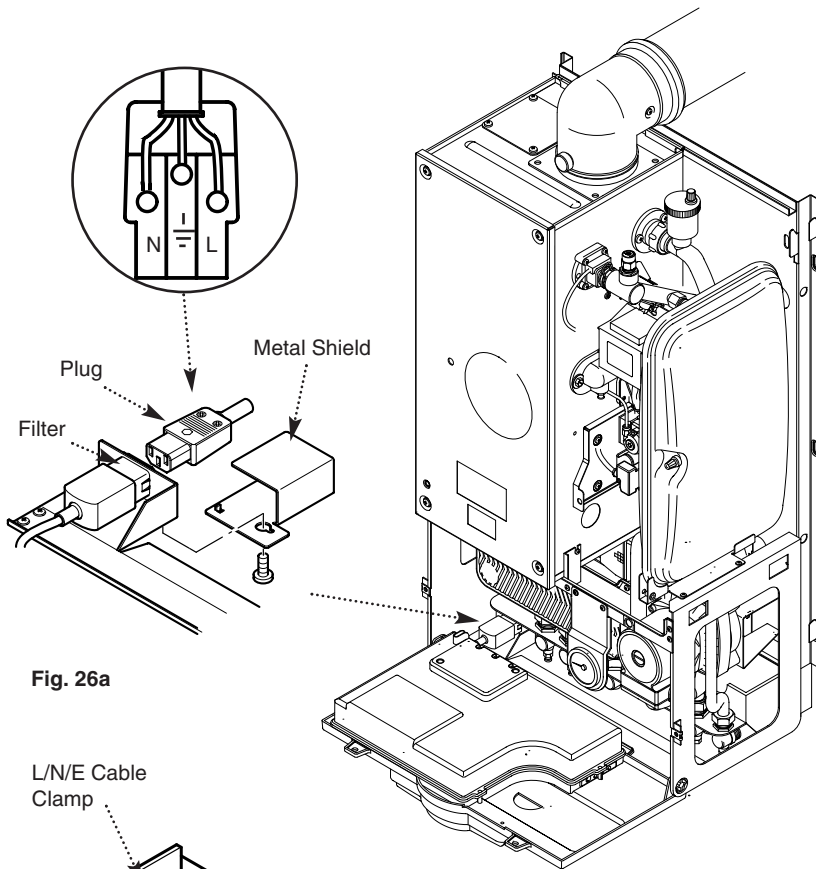

Fig. 26a
4. Remove the metal shield from the kit pack and connect it over the plug (Fig. 26a).